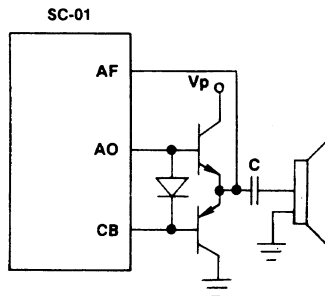

Figure 12. Class B Amplifier
Class B Amplifier: See Figure 12. A current source (CB) is required for this push-pull amplifier.